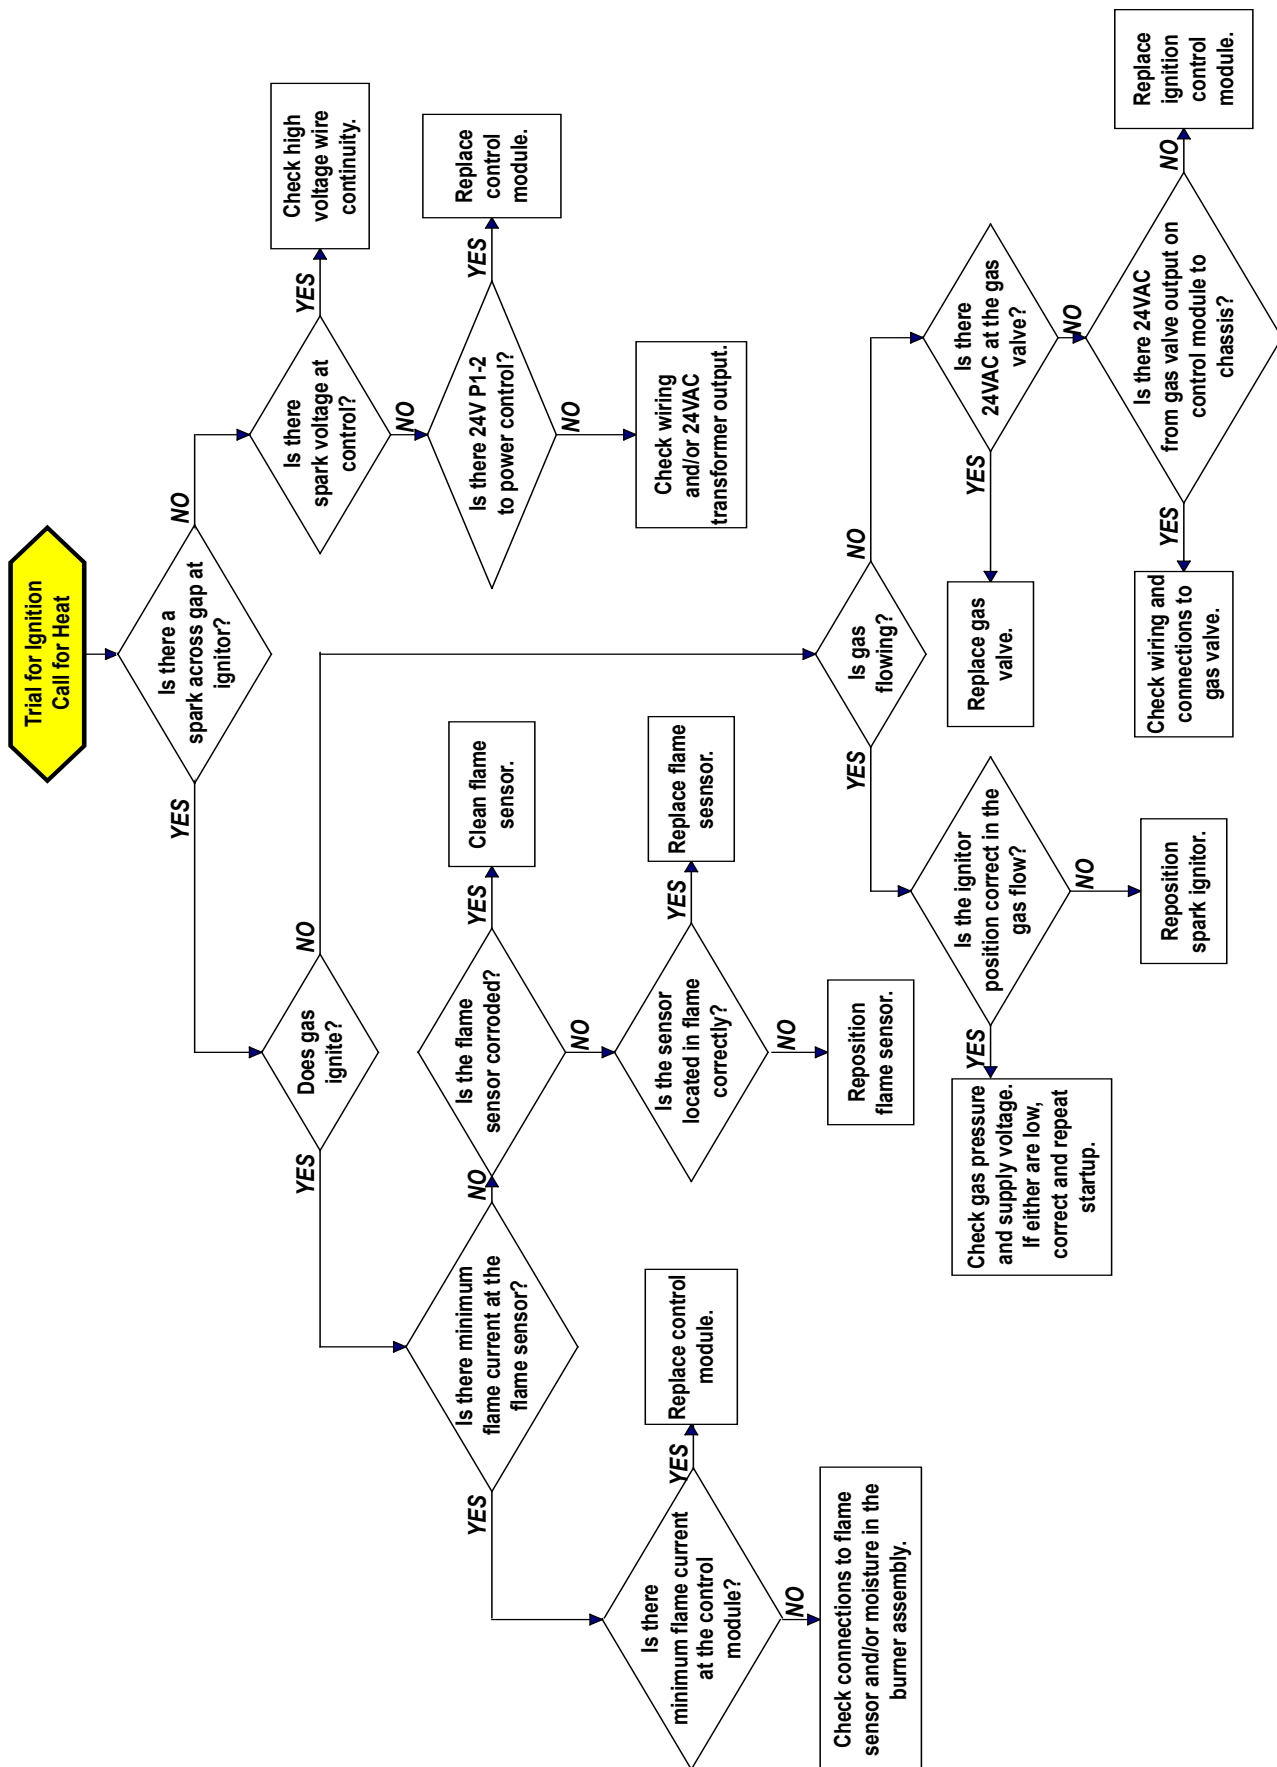

Figure 36. DSI Control Module Troubleshooting Flowchart
- See Figure 36 for a flowchart for troubleshooting the unit using the DSI control module.